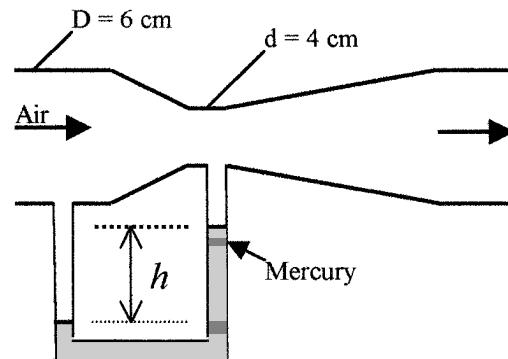

Fig. P6.161
**6.161** Air flows at high speed through a Herschel venturi monitored by a mercury manometer, as shown in Fig. P6.161. The upstream conditions are 150 kPa and 80°C. If  $h = 37 \text{ cm}$ , estimate the mass flow in kg/s. [HINT: The flow is compressible.]